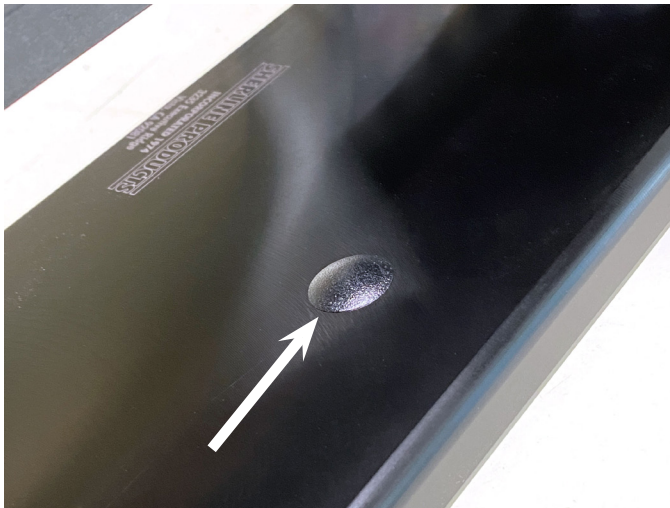

FIGURE 13—The white arrow is pointing to the plastic button plug that covers the 1/2" access hole in the lathe base.
2. The gib lock set screw access hole is on the bottom, back side of P/N 46291. To gain access to the gib lock set screw, we have added a 1/2" access hole in the lathe base. The access hole has a plastic plug in it. Remove the plastic plug. Then jog the Z-axis until the set screw access hole is over the 1/2" hole in the base (see Figure 13).